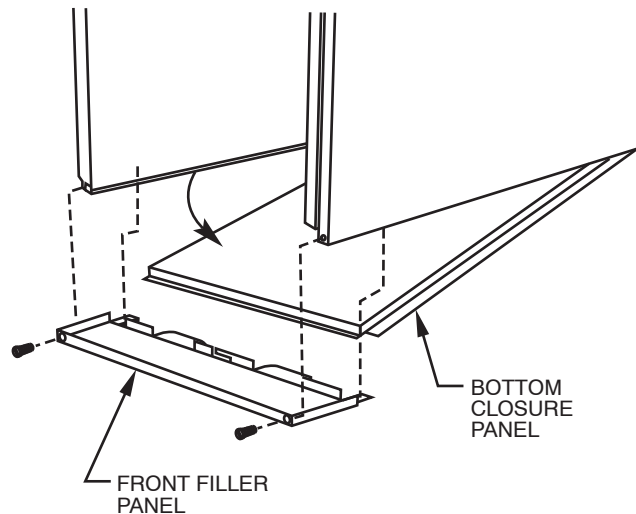

Fig. 28 - Removing Bottom Closure Panel
1. Tilt or raise furnace and remove 2 screws holding front filler panel. (See Fig. 28.)